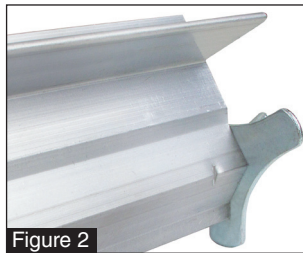

Figure 2
3. Make sure the gauge striking surface is in line with the screed edge as pictured in *figure 2*.